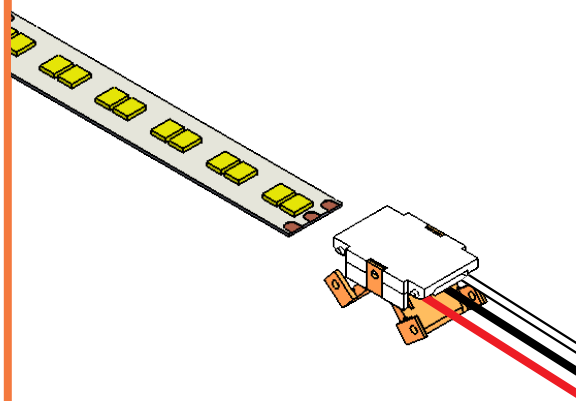

Figure 1
1. For HFL05: Insert the stripped end of the 18 AWG wire into the wire end of the connector, ensuring it is securely seated. Match polarity [Red (DC+), Black (W-), White (C-)] to tape leads. See figure:1